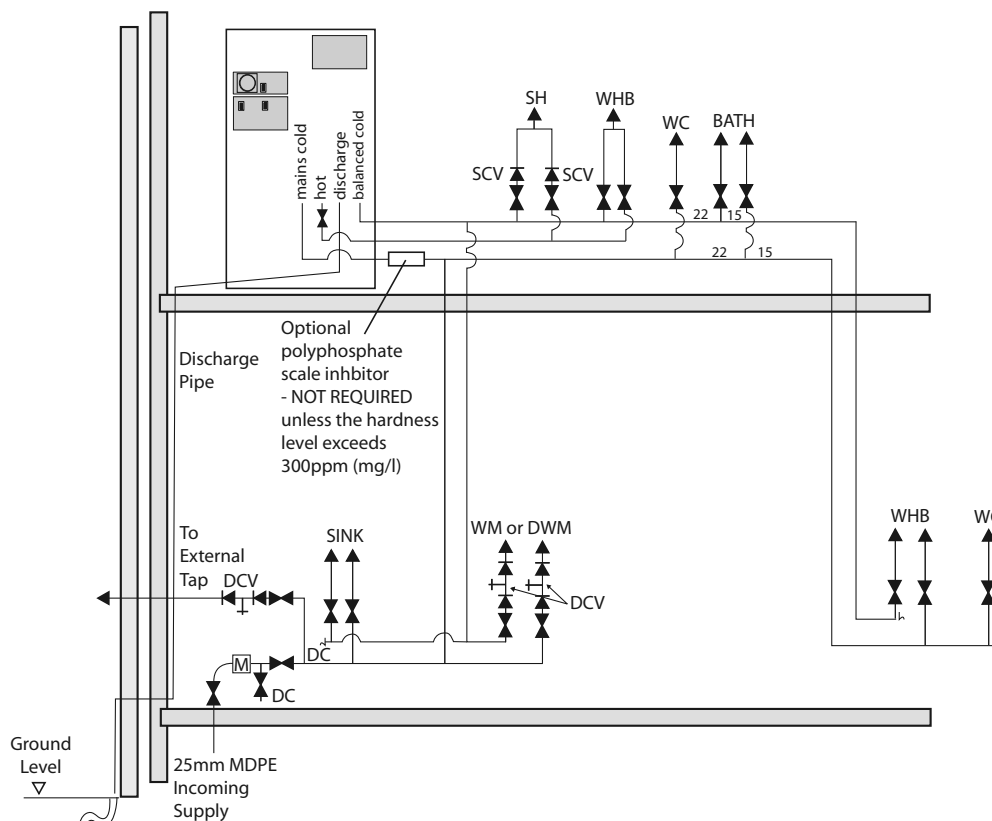

Figure 2.1 Typical cold and hot water network (to a smaller property)
- As a minimum it is recommended that the cold supply to the appliance internally is run in 22mm copper or equivalent in plastic and then from the appliance, hot and cold services are in 22mm past the draw-off to the bath as shown schematically in figure 2.1. For large properties bigger sizes will be necessary and these should be proved by calculation in accordance with BS6700.